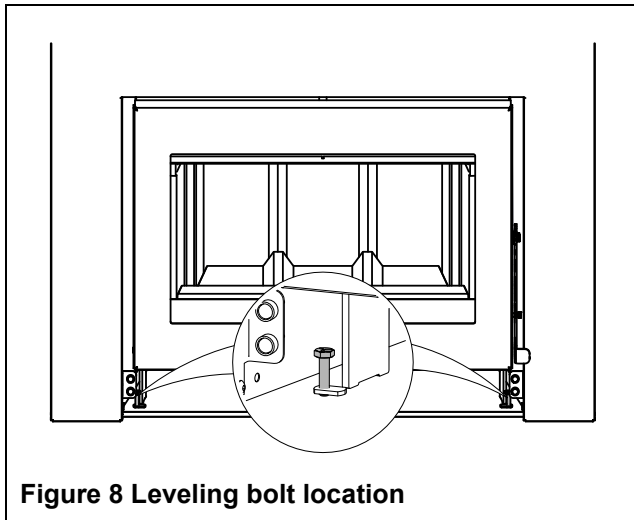

Figure 8 Leveling bolt location
and secure the liner to the appliance flue collar. Ensure the unit is resting on a flat surface, and using the two leveling bolts at the front, adjust for stability (Figure 8).
7. Ensure the unit is resting on a flat surface, and using the two leveling bolts at the front, adjust for stability (Figure 8).